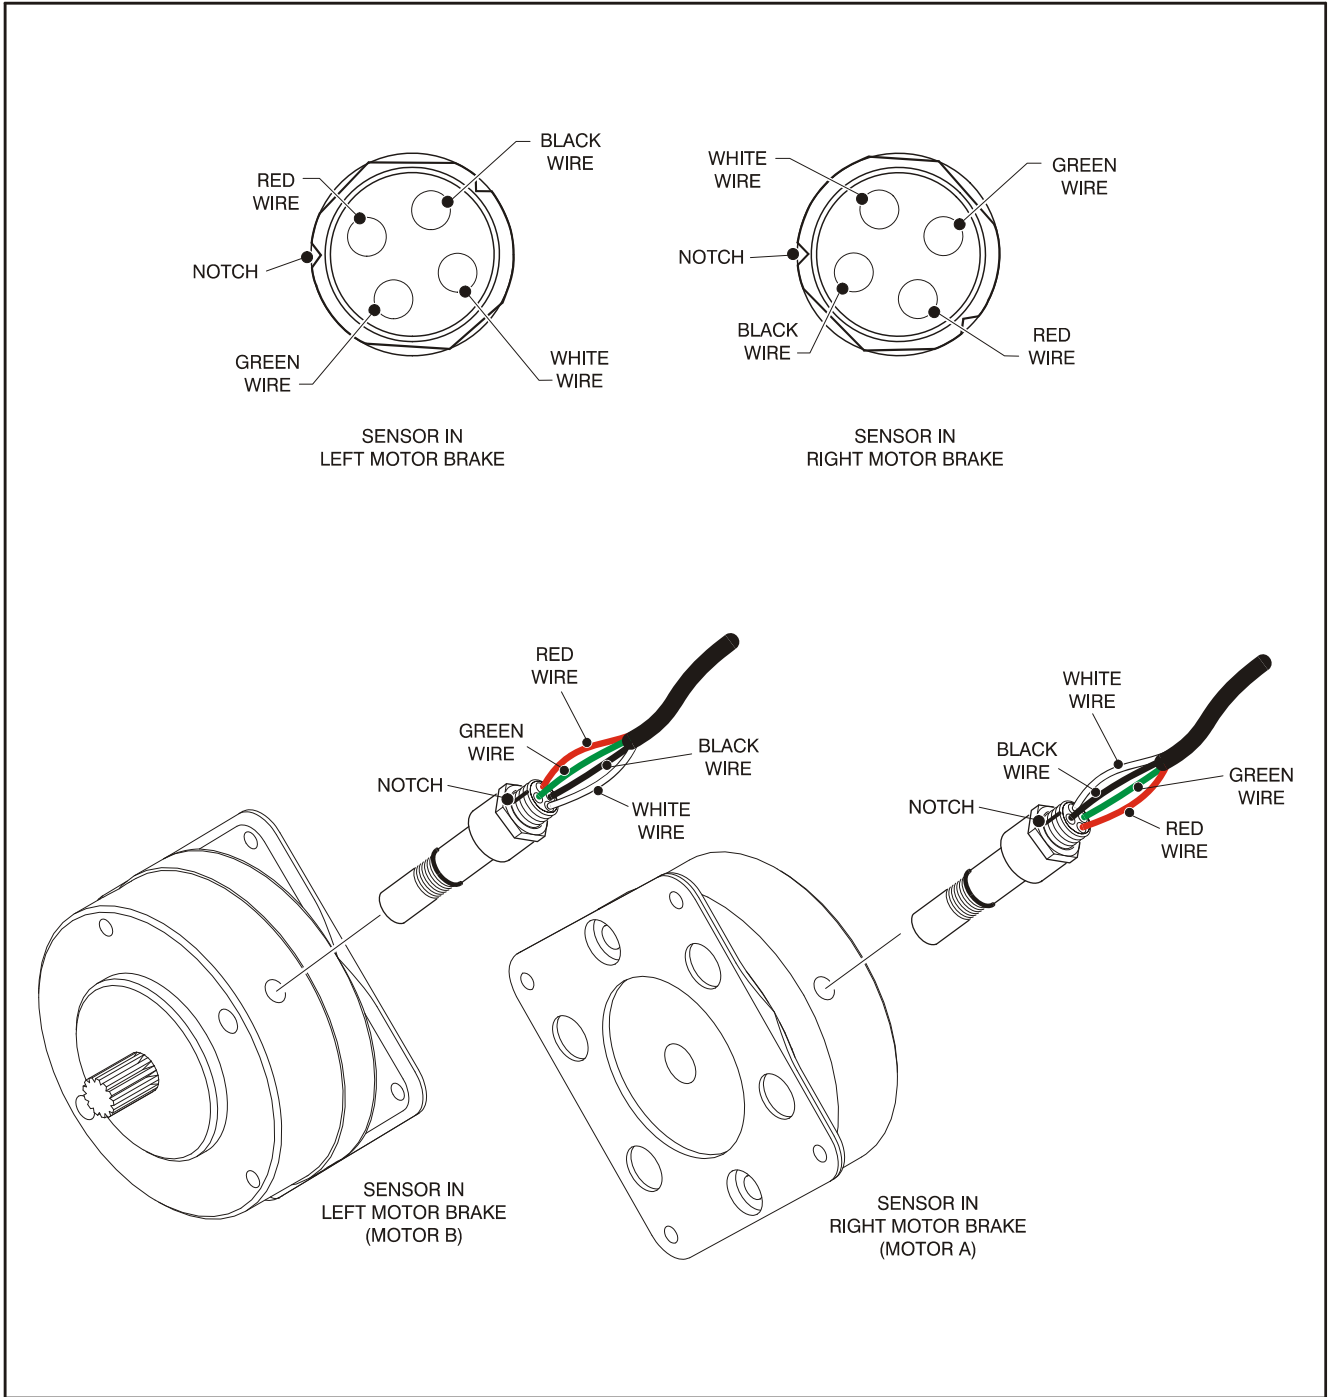

Figure 3-14. Speed Sensor Orientation
3. Back-off 1-2 turns and align the notch with the axis of the brake. Refer to Figure 3-14., Speed Sensor Orientation.